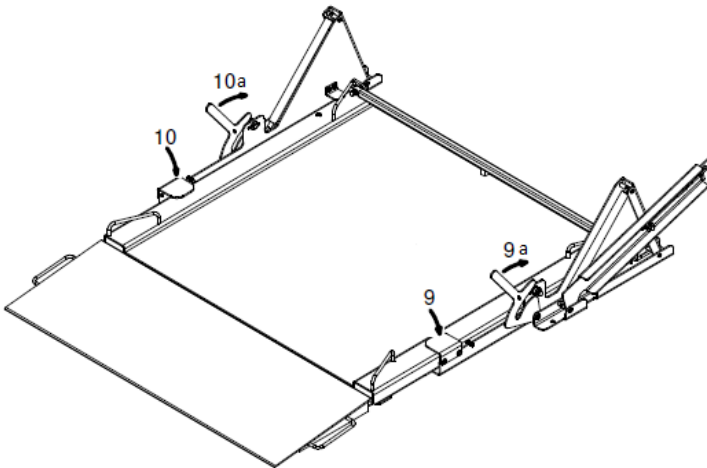

Fig.24. Lifting lock
3. Press the lifting mechanism (9), release the lock (9a) while still pressing the lifting mechanism (Figure 24).
4. Press the lifting mechanism (10), release the lock (10a) while still pressing the lifting mechanism (Figure 24)